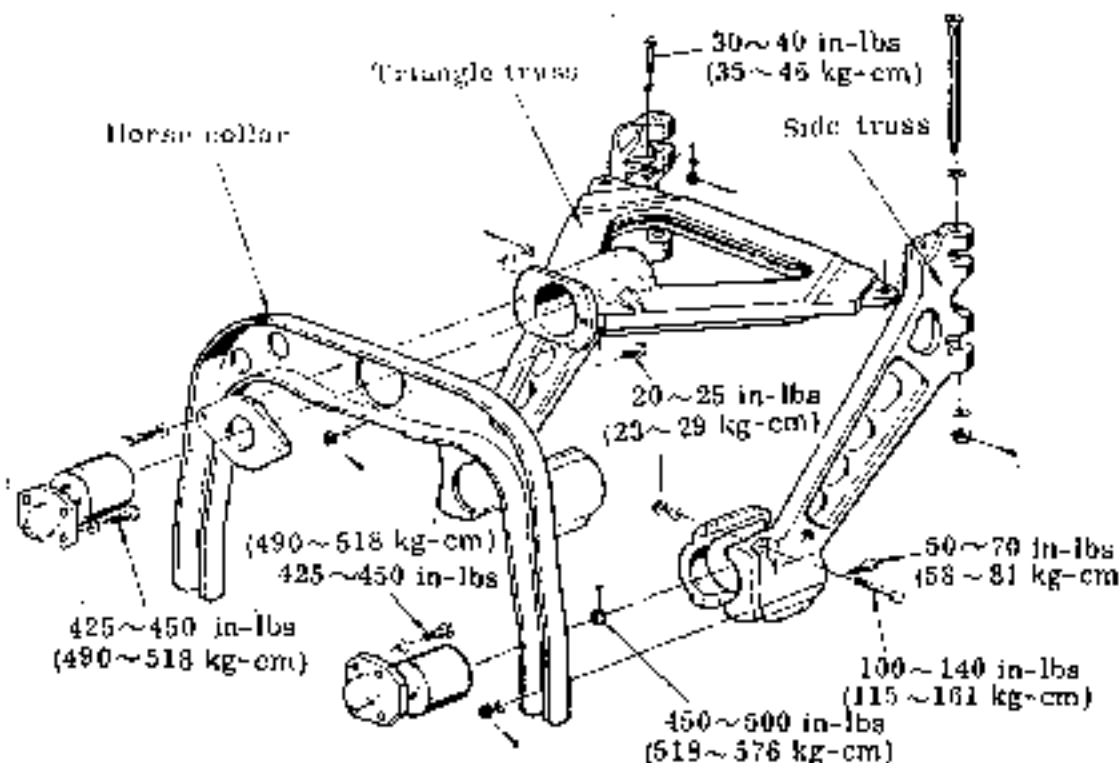

Fig. 6-19 Engine mount installation
5.3 ASSEMBLY OF ENGINE MOUNT (See Fig 6-19).